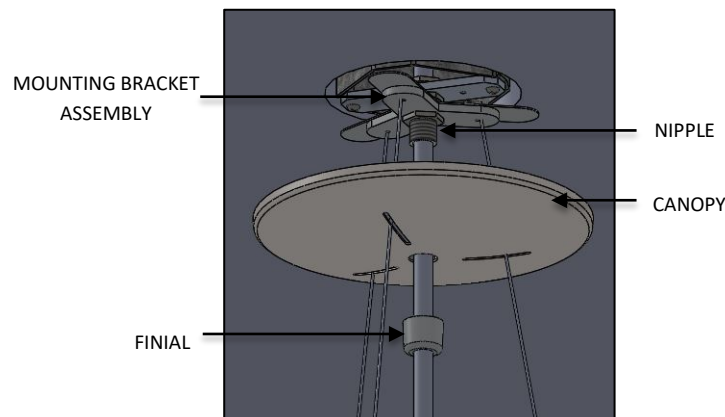

FIG. 30 – FINIAL INSTALLATION
10. Raise CANOPY and secure to ceiling by threading the FINIAL to the NIPPLE (available in MOUNTING BRACKET ASSEMBLY) as shown below in FIG. 30.